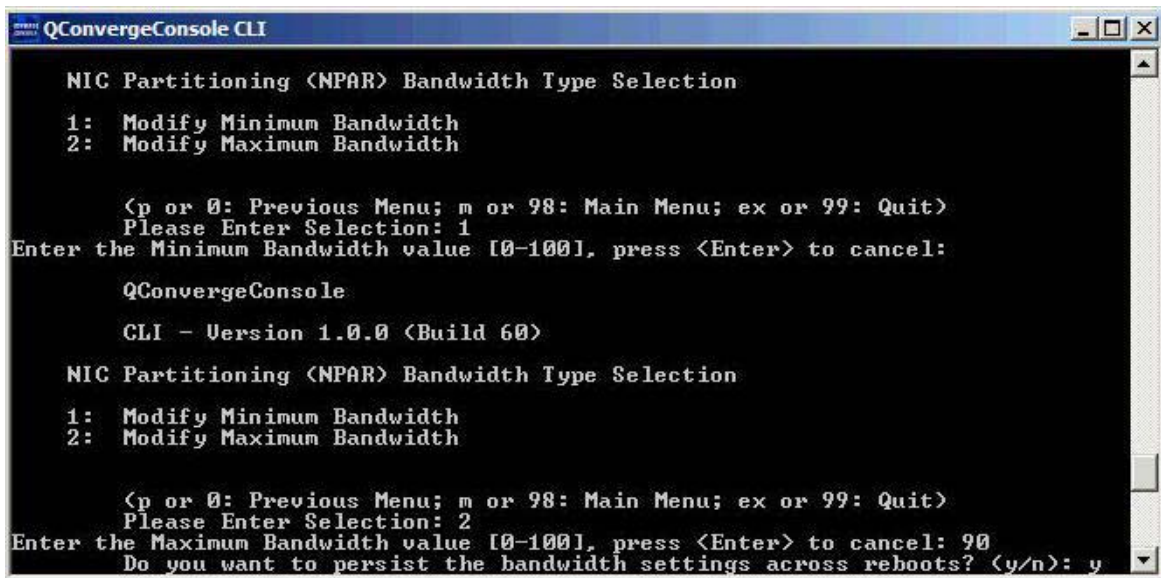

Figure 39: Setting Bandwidth Changes to Persist
- f. Specify whether you want the bandwidth settings to persist across reboots (Figure 39).